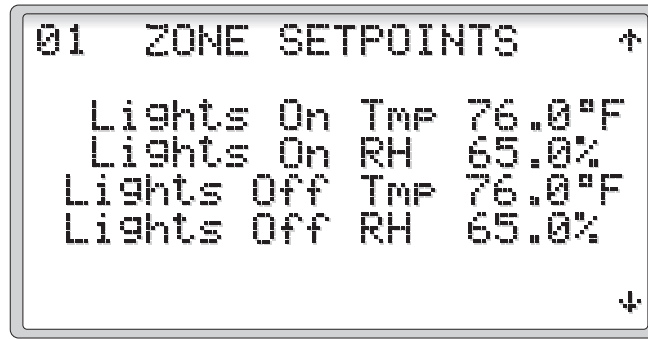

Figure 2
2.2 Zone Setpoints (Figure 2)
Pressing the **Prg** key from the Home Screen displays the ZONE SETPOINTS (Figure 2). This menu allows for modifications of the temperature and humidity setpoints specific to the unit in the Lights On or Lights Off mode. To modify the setpoints, press the **ENTER** key and use the arrow keys until the desired setting is shown. Press the **ENTER** key to accept the setpoint value.